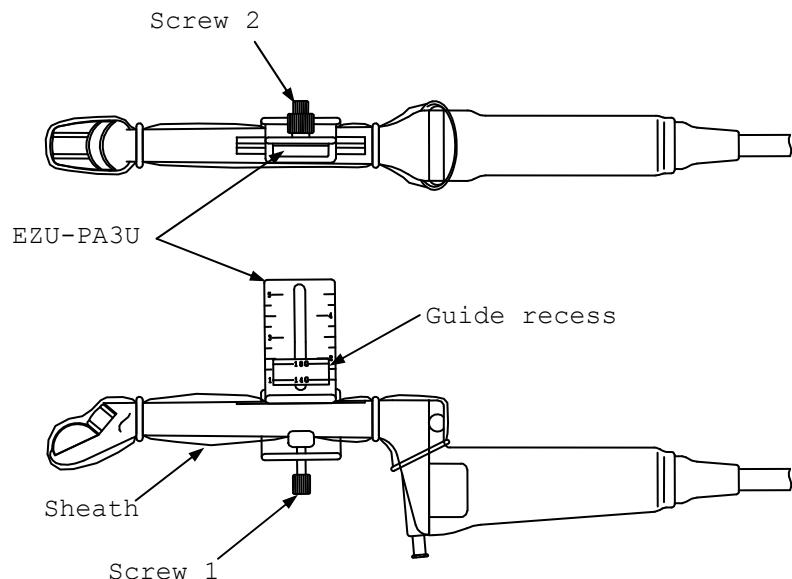

Fig. 5
- 2) Set the Puncture Guide Fixture on the probe as shown in Fig.5, and fix it by tightening the screw 1.